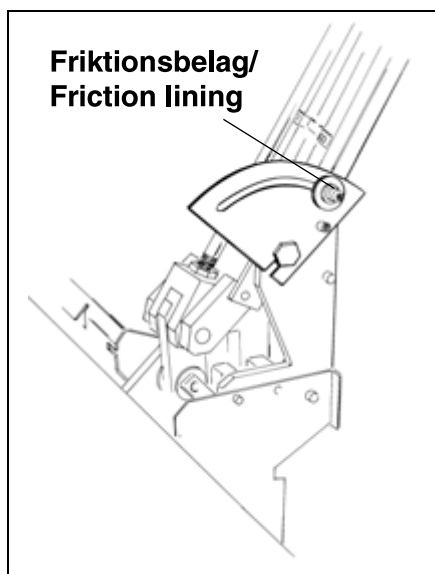

Fig. 47: *lo\_arm\_stability*
- Loosen the friction lining on the lower articulation (Fig. 47 / p. 57).
- Remove the screw completely (Fig. 47 / p. 57).